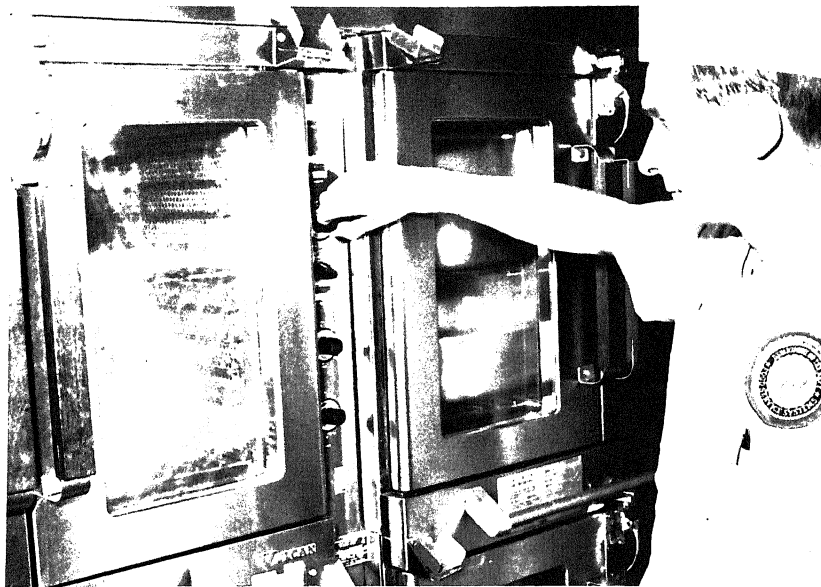

Figure 6-6.—Convection oven.
**CONVECTION OVEN.**—A convection oven (fig. 6-6) has a blower fan that circulates hot air throughout the oven, eliminating cold spots and promoting rapid cooking. Overall cooking